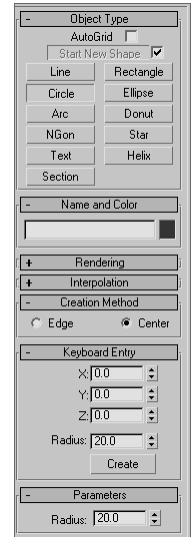

Figure 2.13
3. Let's start with a circle. Click the Circle button. Your cursor will turn to a cross as it did when you created the cylinder. This time, expand the Keyboard Entry rollout. Enter a value of **20** for the Radius under the Keyboard Entry rollout in the Create panel, as you can see in Figure 2.13. Click the Create button and a circle with radius 20 will appear at the origin. This is a way to make objects with precise dimensions, as opposed to clicking and dragging as you did to create the cylinder.